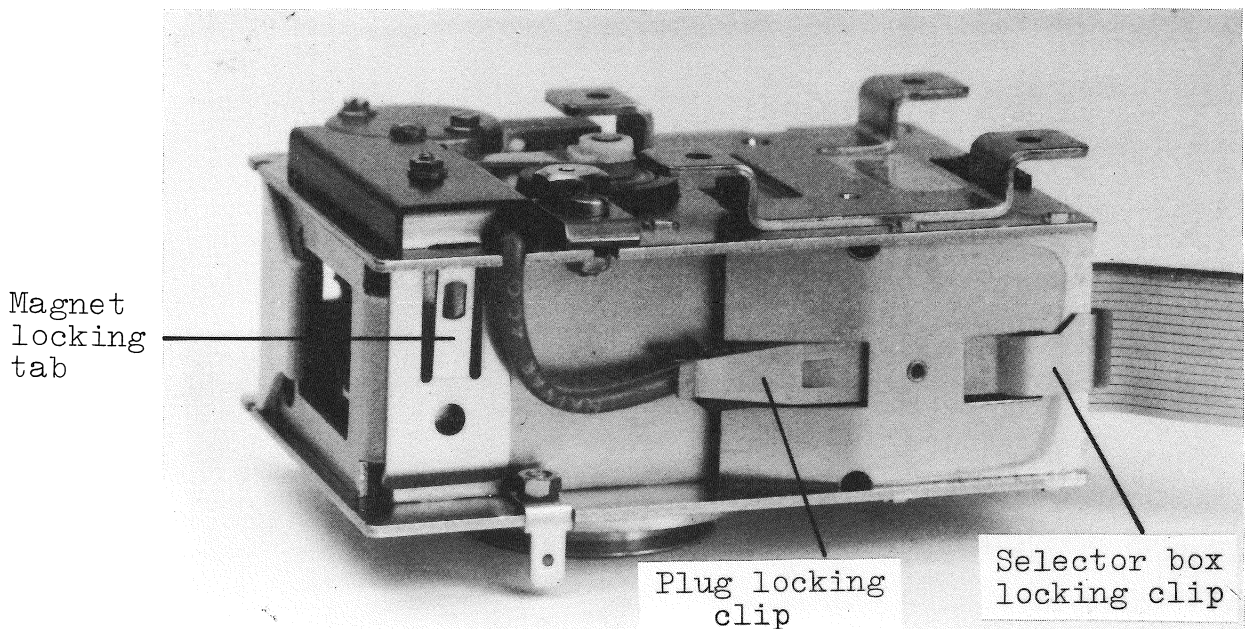

Fig. 5.2 Dismantling
5.1.3 REMOVING THE SELECTOR BOX (See Fig. 5.2)
5.1.5 REMOVING THE TAPE FEED MAGNET (See Fig. 5.2)